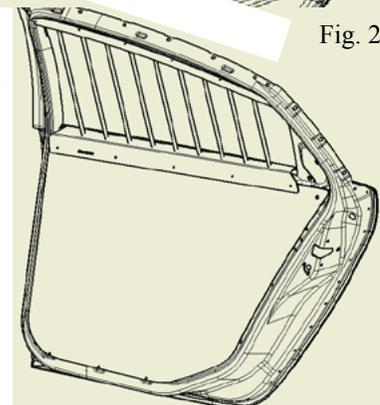

Fig. 3
2. Place the Window Armor on top of the rubber trim installed above. Center the outside of the metal mounting frame on the door side to side. (See Fig. 3)
4. Install the center lower screw first then install the (4) upper screws. (upper screws should go through plastic trim piece and into sheet metal of upper door frame. Then install the remaining lower screws. The supplied screws (3X72) are a Type A self tapping but sometimes it is necessary to drill a 7/64" pilot hole.